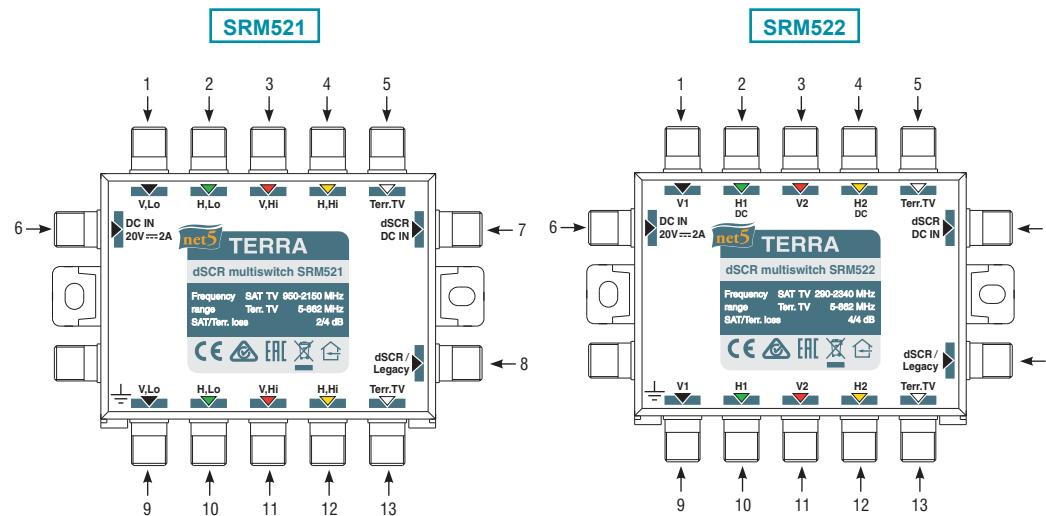

Figure 1. External view of the multiswitches
Main way for the multiswitch powering is via DC input (see Figure 1, pos. 6).
If all connected STB's can supply sufficient power to the multiswitch, connected Quattro LNB (SRM521)/2 wideband LNB's (SRM522) and other equipment powering via dSCR or Legacy outputs is also possible (see Figure 1, pos. 7, 8).
If none - use DSCR power inserter on DSCR output (see Figure 1, pos. 7).